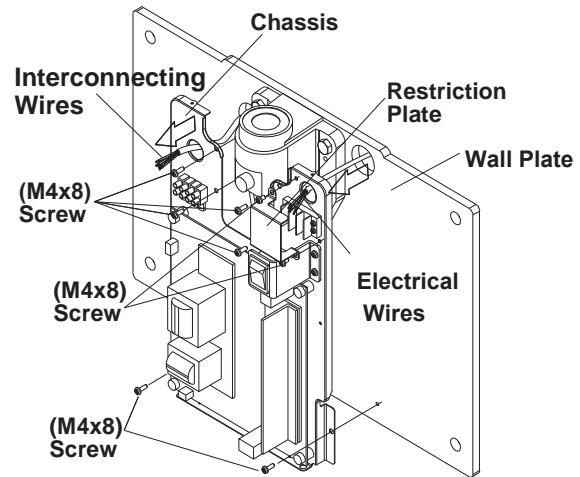

Fig.3-3 Attaching Chassis to Wall Plate
1. Remove the restriction plate over the terminal blocks by taking out two (M 4 x 8mm) screws. (Fig.3-3)
2. Route electrical interconnecting wires and power supply wires through the access holes on chassis and mount the chassis on the arm bracket with three of four (M4 x 8mm) screws. (A screw at lower right corner should be secured with a green wire from arm at setp D 6. on page 10.) Secure the bottom corner of chassis with two (M4 x 8mm) screws to the wall plate. (Fig.3-3)
4. Reattach the restriction plate. (Fig.3-3)